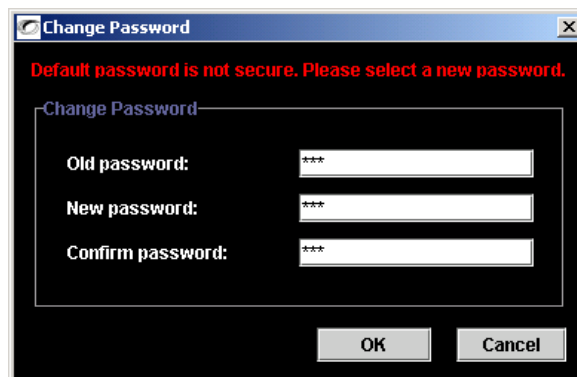

Figure 5-8 Change Password Window
15. If you logged on using the default password, the AIM will prompt for a more secure password as shown in Figure 5-8.